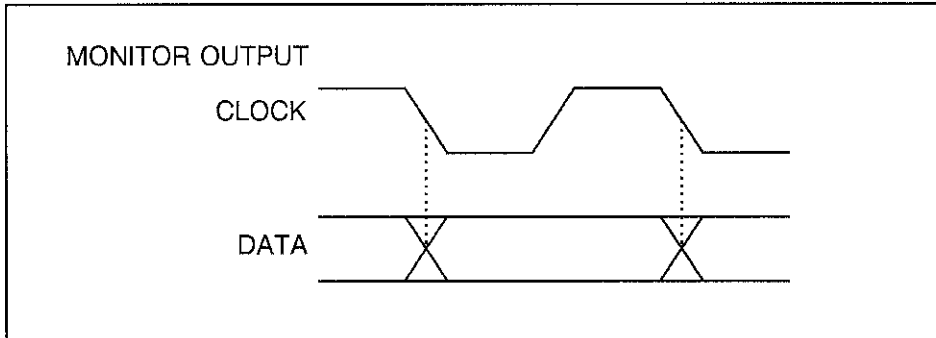

Figure 3-1 Optimum Phase of MONITOR OUTPUT
Figure 3-1 shows the relation in optimum phase between MONITOR OUTPUT - CLOCK output ④ and MONITOR OUTPUT - DATA output ⑤ when clock and data are input.